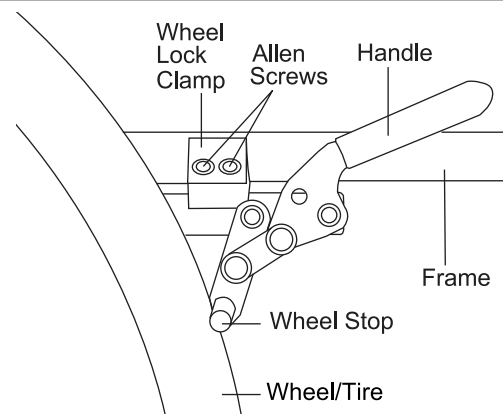

Figure 68
1. Loosen the Allen Screws in the wheel lock clamp. See Figure 68.
2. Slide the old Standard Push to Lock wheel lock out of the wheel lock clamp. See Figure 68.